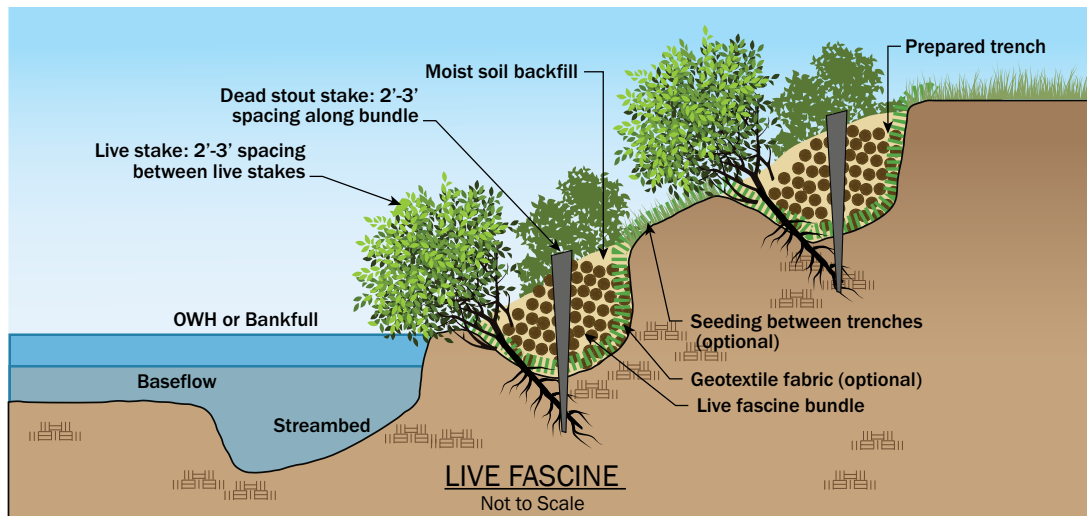

Figure 5.3.18. Live fascine bundles can be used with stakes to help control erosion.
- As seen in Figure 5.3.18, live plantings such as stakes and fascines can help to reinforce the soil and withstand soil movement through interconnected root systems. Stout stakes are live but dormant woody cuttings with the branches removed. Fascines or wattles are living branches bundled together to trap sediment and protect against erosion. They are laid horizontally along streambanks to decrease stream velocity and reduce erosion.